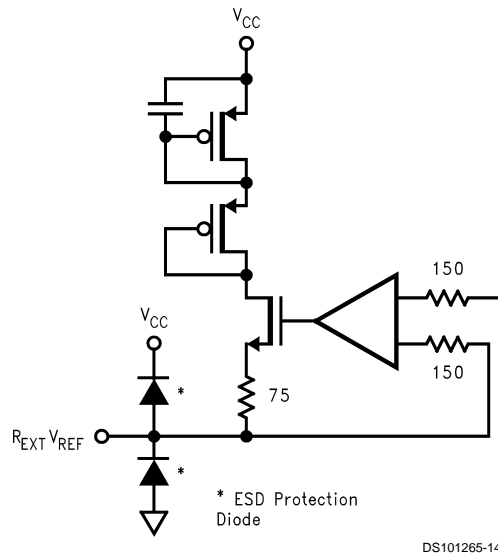

FIGURE 11. Pin 1 ( $R_{\text{EXT}} V_{\text{REF}}$ )
**Pin 1— $R_{EXT}$   $V_{REF}$**  A 10 k $\Omega$  1% resistor is connected to this pin to set up the internal current sources. The LM1253A is optimized for this value of resistor. A DC voltage only will be on this pin. Decreasing the value of this resistor will increase supply current while degrading performance; increasing the value of the resistor will decrease supply current and also degrade the performance. Do not place the resistor close to sources of heat such as the CRT driver. Figure 29 shows the components connected to pin 1, Figure 11 shows the internal schematic of pin 1.